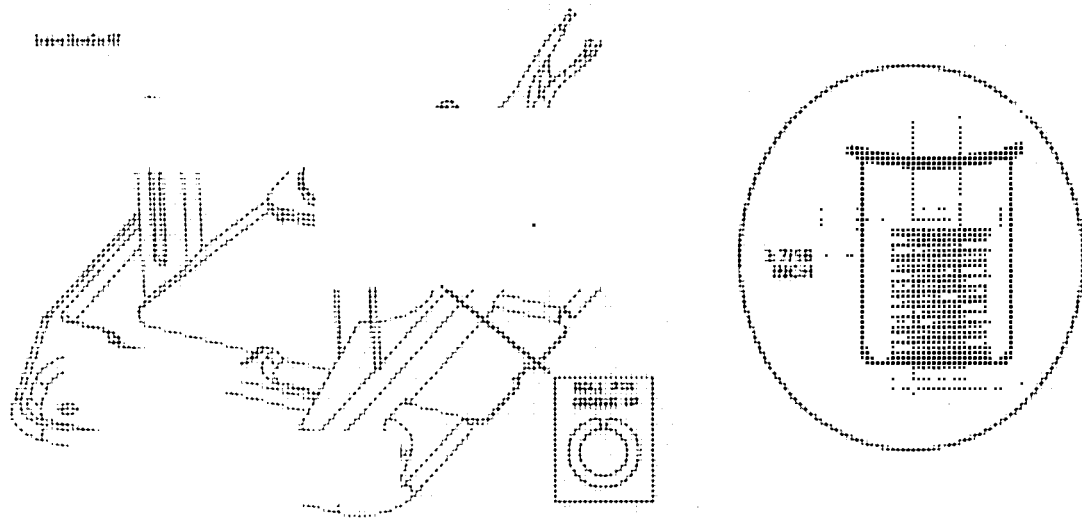

FIGURE 15.
9. Using locking pliers, compress the tension spring; then, use a hammer to install the new roll pin. See FIGURES 15 & 16. The roll pin is correctly installed when the following conditions are met:
12. Verify that the seat is in its top position (3 holes visible in seat base cylinder). See FIGURE 15. If the seat is equipped with an up-stop mechanism, install the limiting bolt and nut that were removed at the beginning of this procedure. Do not over tighten the nut, or the seat will not move up and down. The limiting bolt will prevent the seat from being raised beyond its top position. Step 12 is not required if proceeding to complete Repair Procedure 3.